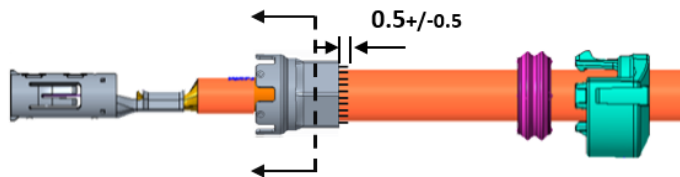
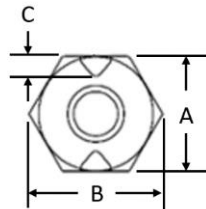

Figure 14: Crimped ferrule
Figure 15: Cross section X-X: Shielding crimp section
- Hex crimp dimensions per figure 14, figure 15 and table 13
- 每个压接尺寸依据图14，图15和表13的六边形